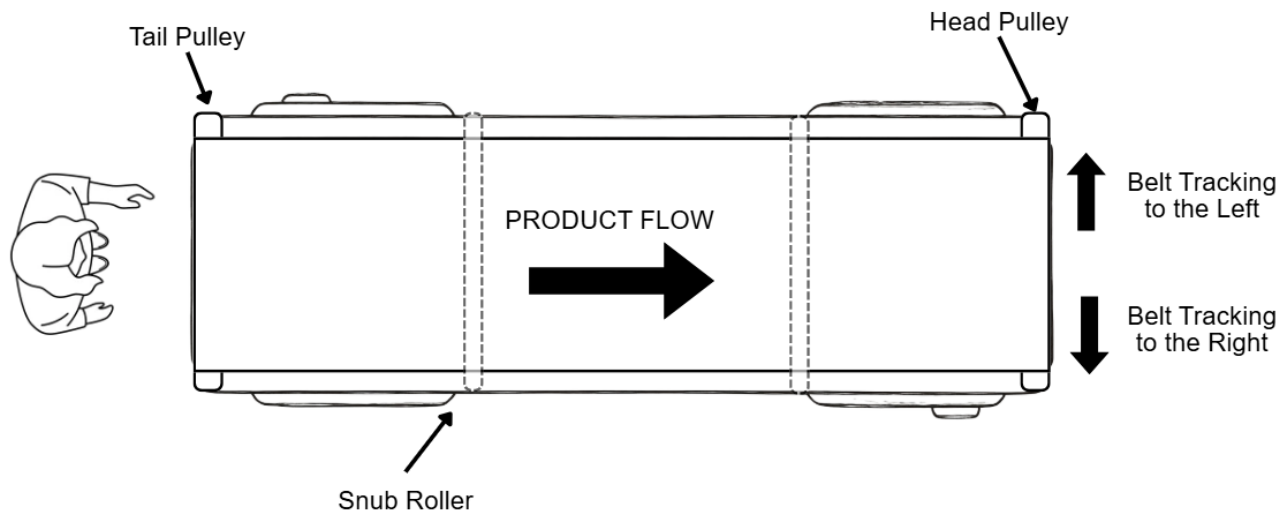

Figure 2.9 - Pulley Adjustment for Belt Tracking
- Review belt position at all pulleys. If belt tracking adjustments are necessary, turn off the conveyor and follow proper lockout/tagout procedures before making adjustments. Refer to *Figure 2.9*.